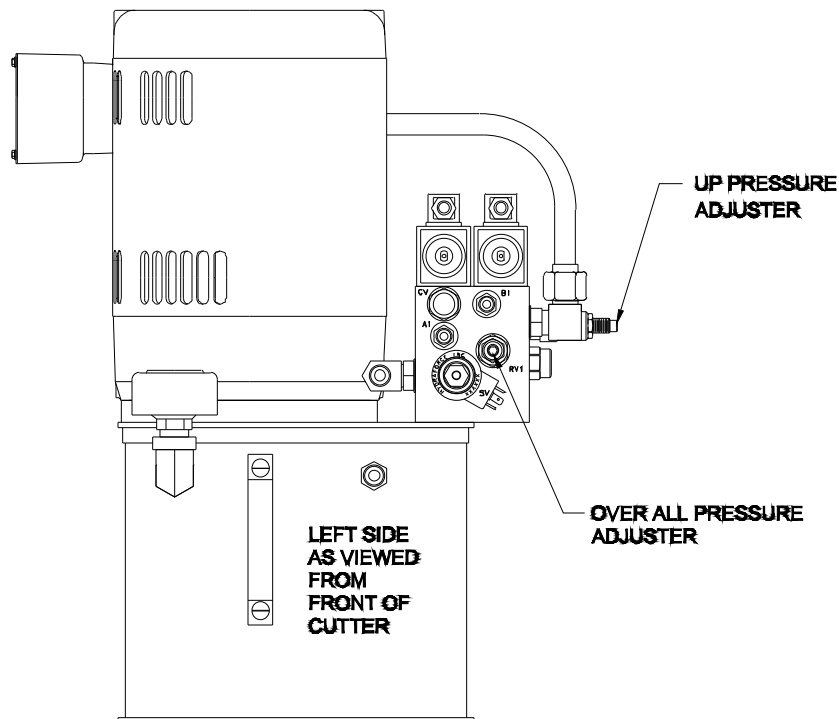

Fig 57
7. If the "Pressure Gauge" is not at 1800 psi, loosen "Over All Pressure Adjuster" locknut Fig. 57 with a 3/4" wrench. Use a 1/4" Allen wrench in the adjuster stem. Turn the Allen wrench clockwise to increase pressure.
12. Loosen the “Up Pressure Adjuster” locknut with a 3/4” wrench. Fig. 57. Using a 1/4” Allen wrench, turn the “Up Pressure Adjuster” clockwise to increase the pressure.